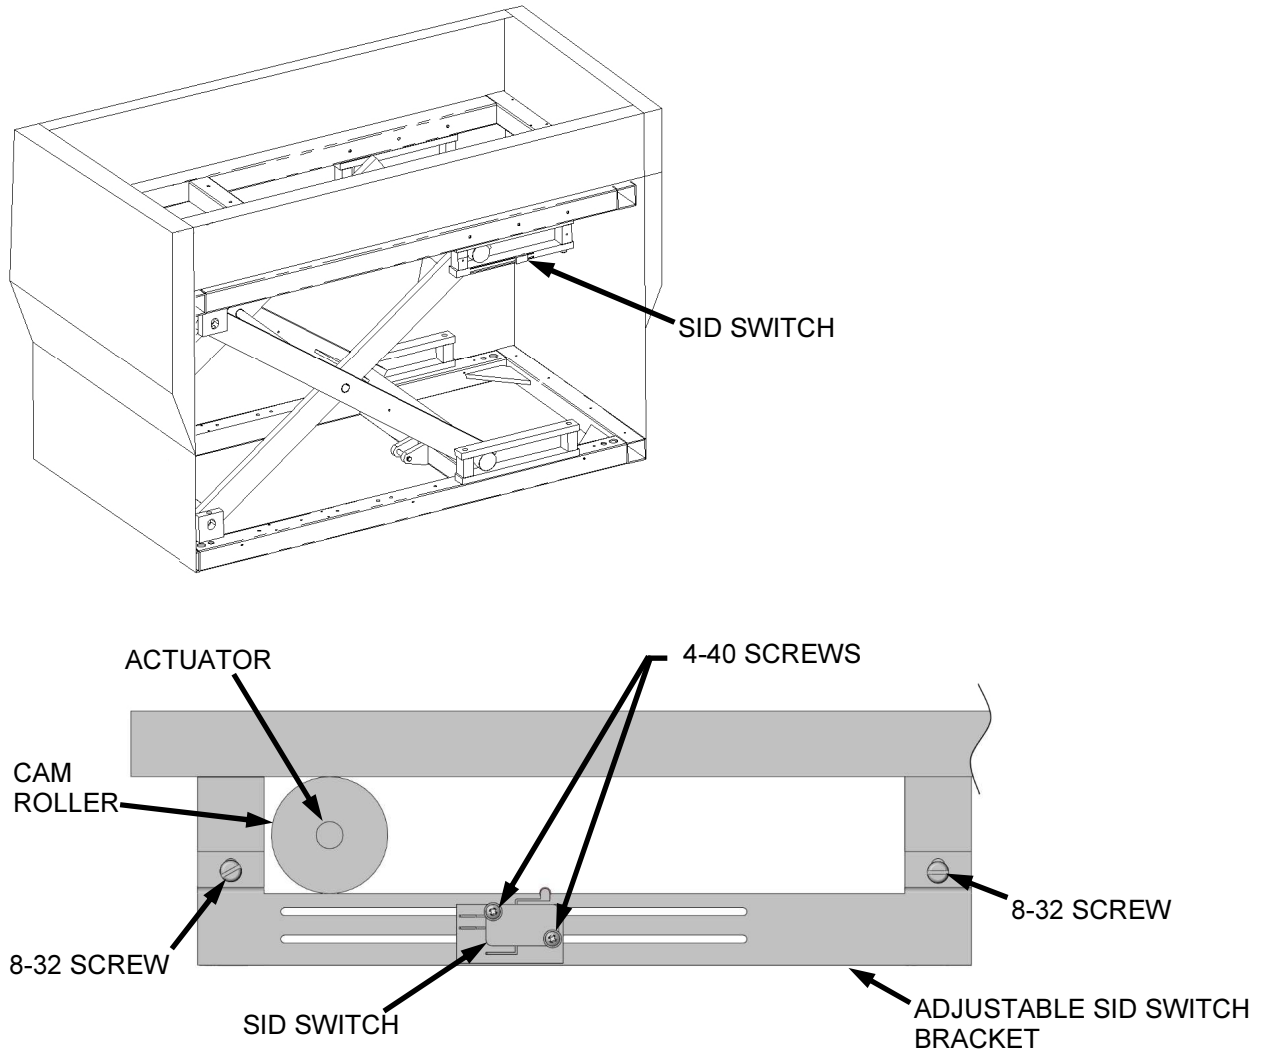

Figure 7: SID Switch Adjustment
4. Referring to Figure 7, loosen the #8-32 screws and move the adjustable bracket down away from the tabletop.
7. With no load on the tabletop, insert a business card or 0.012" feeler gauge between the base of the switch and the SID Switch Roller Arm. Move the adjustable bracket up towards the tabletop until the roller switch bottoms out against the business card or gauge. When correctly positioned, the SID switch and actuator will appear as in Figure 7.